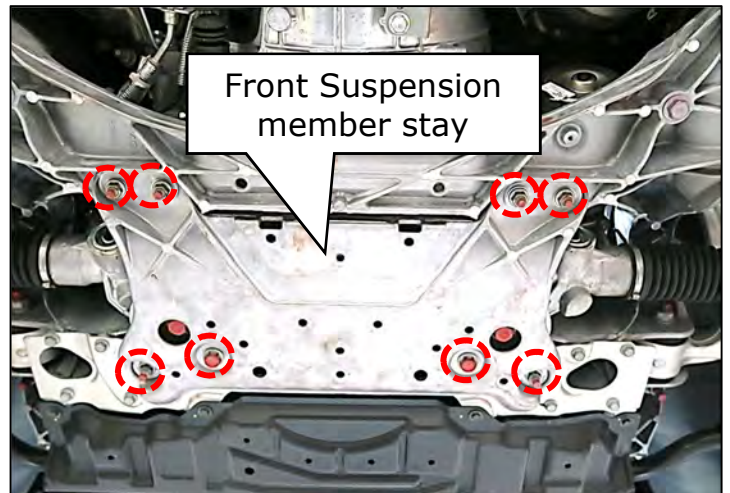

Figure 42
44. Remove front suspension member stay. (Figure 42)
- Remove the (6) Nuts and washers, and the (2) bolts from the front suspension member stay.